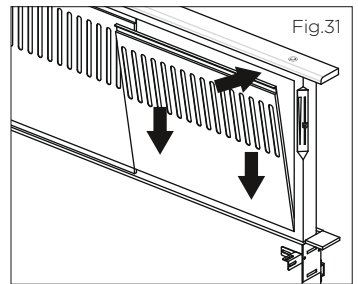

Fig.31
- Install the grease filters Fig.31.